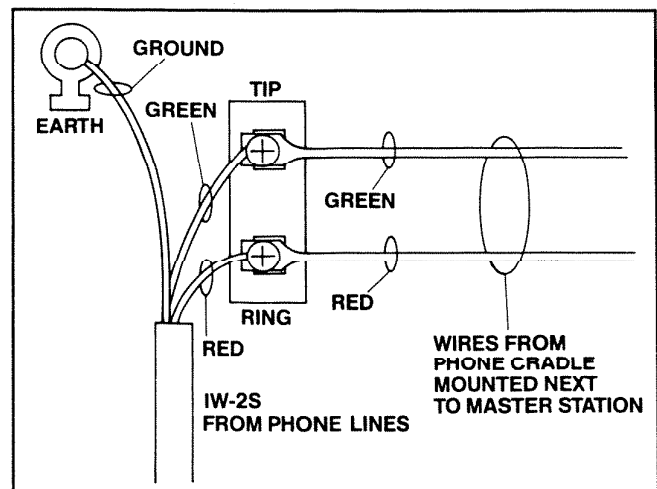

FIGURE 10
3. Connect phone wires and TEL-102-SDA phone cradle wires to two terminal screws marked **PHONE** on the master panel's terminal board. See Figure 10.